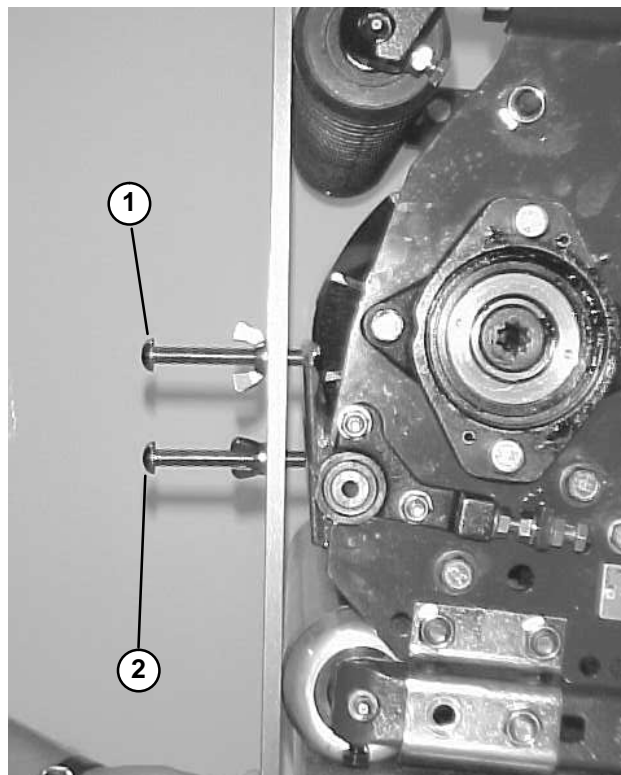

Figure 21
4. Switch first screw on gauge bar so both screw heads are pointed in the same direction (Fig. 21).
5. Place two-screw gauge bar on bedknife so both screws contact bedknife while gauge bar contacts front and rear rollers (Fig. 21).